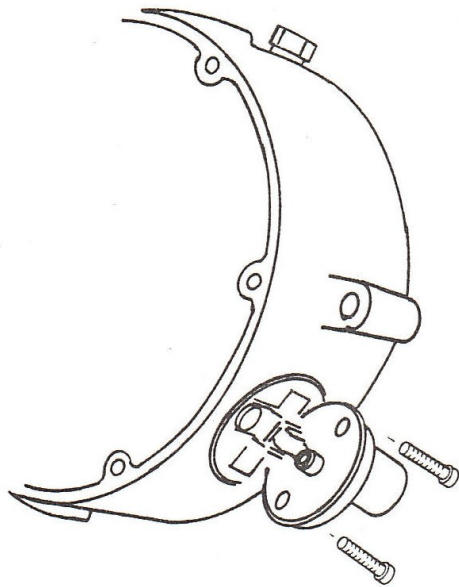

FIGURE 1. Disassembly
3. Remove the two screws holding the inlet assembly and slide assembly from the opening in the side of the primary body (FIGURE 1).